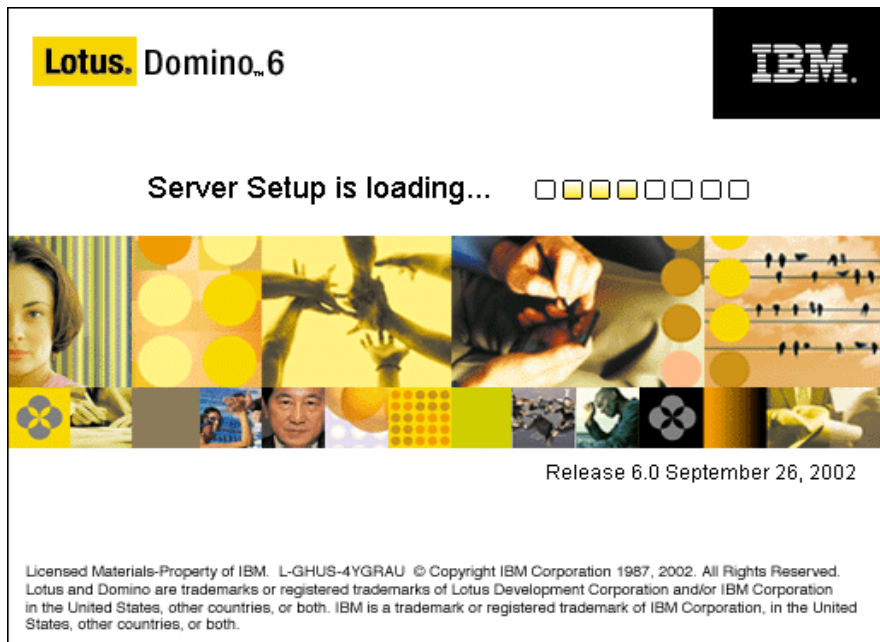
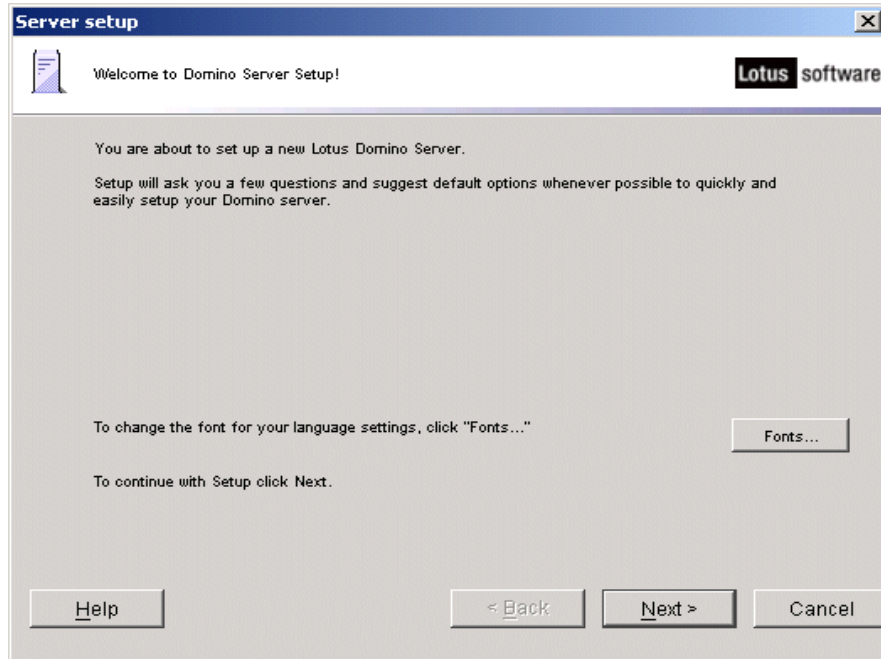

Figure 4-3 Server Setup Loading window
Figure 4-4 Server Setup window
- Remember, it is always recommended that you exit all Windows programs before you begin the Setup process. Click **Install**. Next, you will see the license agreement window. Once you have read through this information, accept it and click **Yes**. This will launch a window similar to Figure 4-3.
- Figure 4-3 shows the Server Setup Loading window. When Server Setup has finished loading, you will see a window similar to Figure 4-4 on page 40.